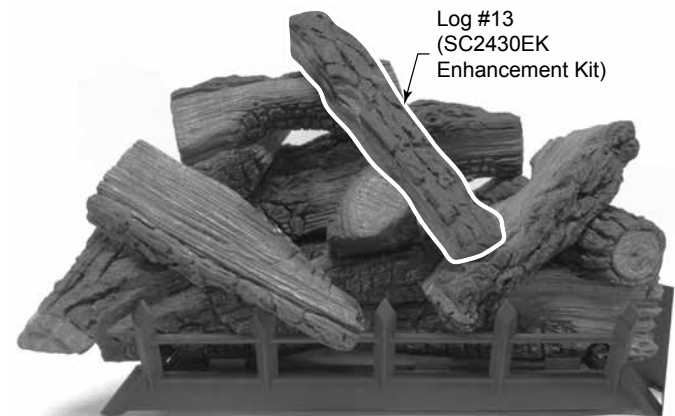

Figure 6.26 - Log #13 Placement
13. Place log #13 onto log #12 and top front right log (#10) by placing notch on bottom of log onto locating block on log #12. Rest bottom of log onto log #10 and center log (#9). See Figure 6.26.